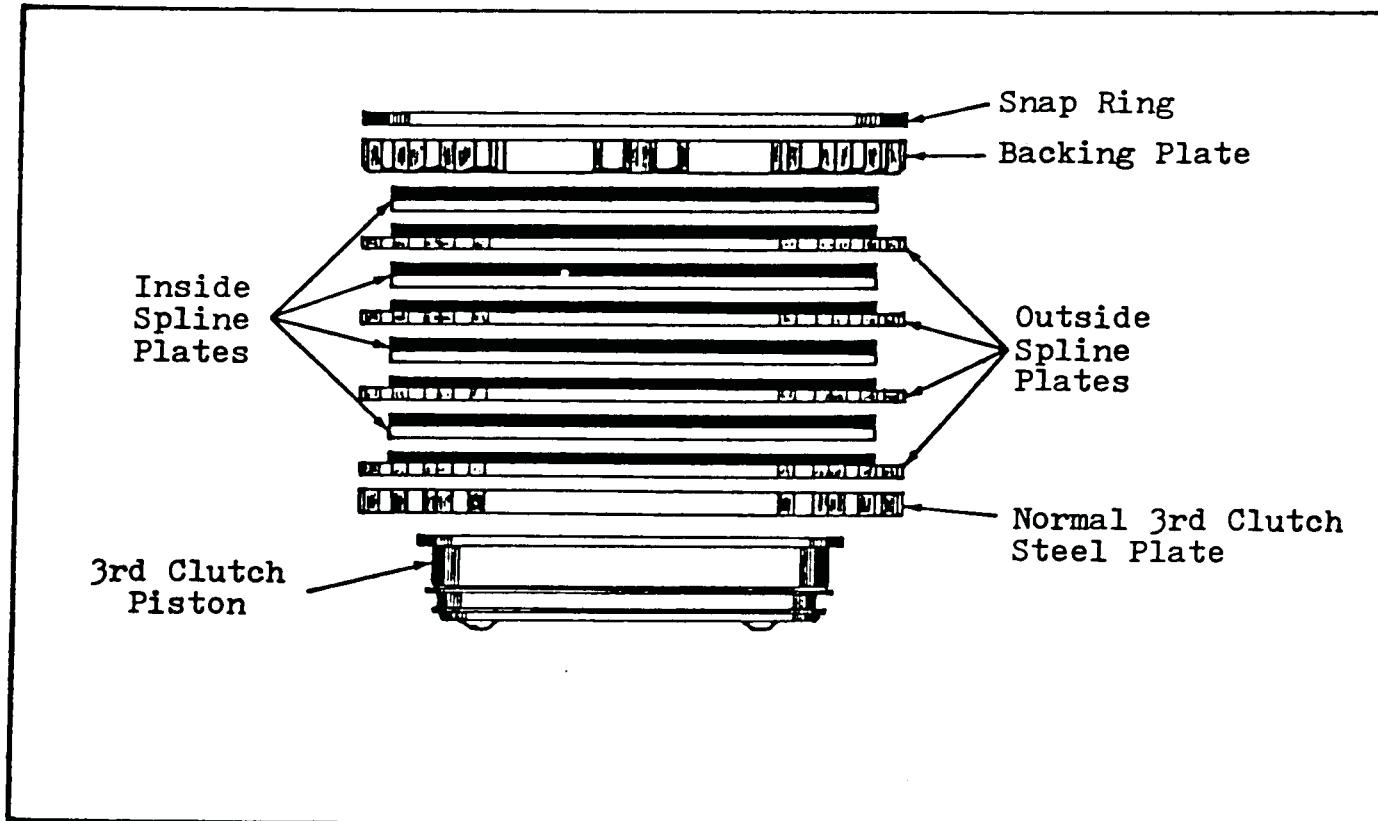

Figure 77
12. Install the third clutch plates using Figure 77 as a reference. This pack MUST start with a normal steel plate followed by a single sided, outside spline plate, with the lining up. This pack requires four outside spline plates and four inside spline plates.